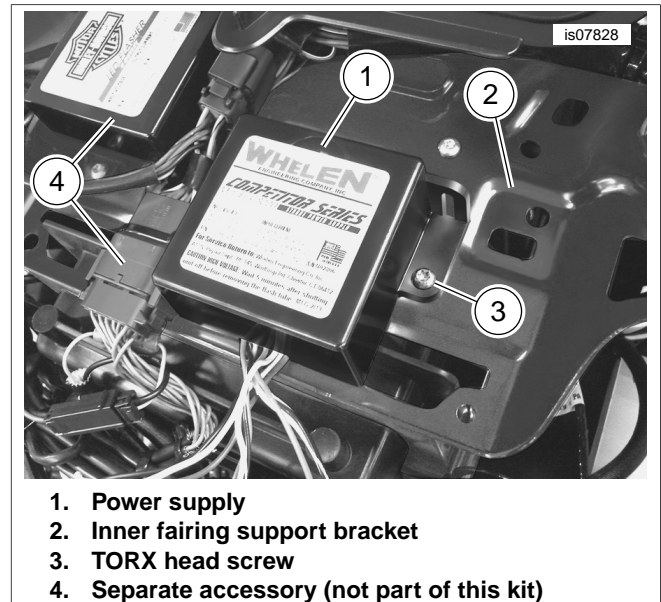

Figure 14. Headlamp Power Supply Installation (2014- Later FLHTP Models)
2. See Figure 14. Remove the TORX head screw (3) on the inner fairing support bracket (2) in the location shown. Position and mount the power supply (1) to the bracket with the screw. Tighten to 25-35 **in-lbs** (2.8-4.0 Nm).